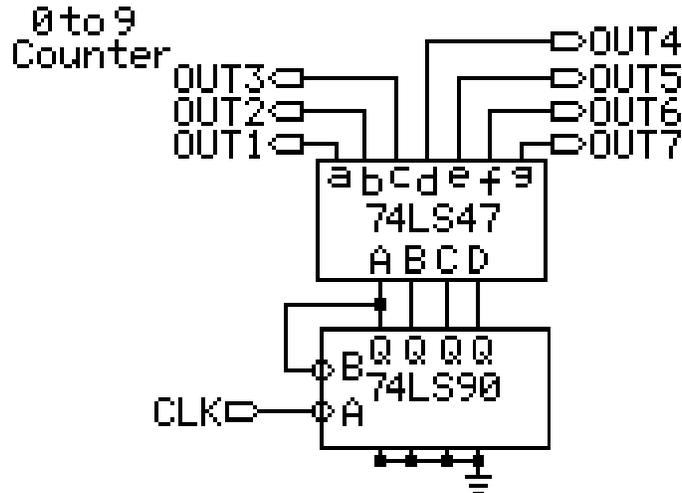

Figure 7-9
1. 0-9 counter circuit, as Figure 7-9